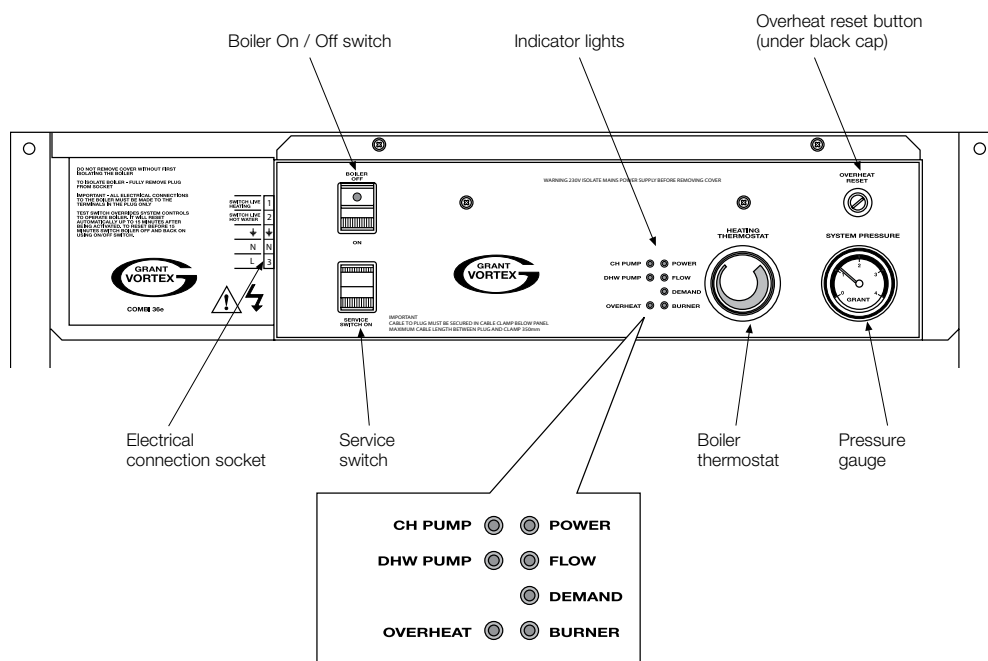
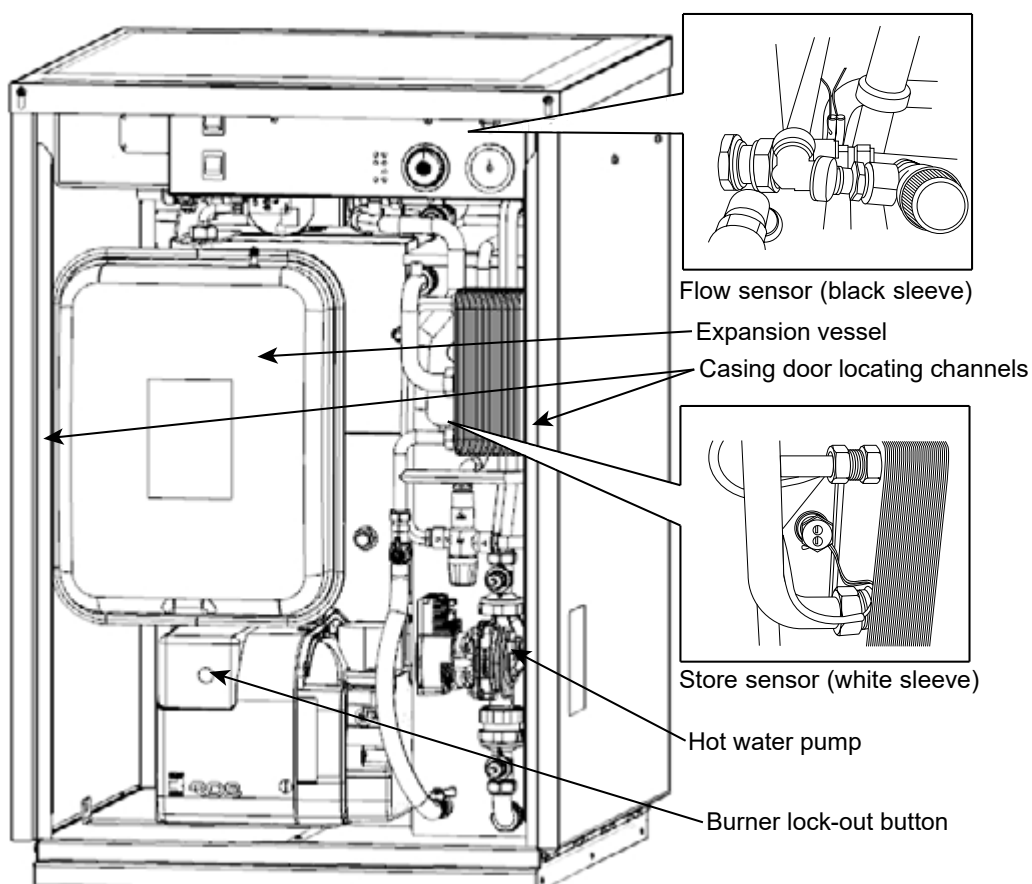

Figure 10-1: Vortex Pro External Combi boiler control panel
Figure 10-2: Position of boiler components - Vortex Pro External Combi
The controls are shown in Figure 10-1 and other components are shown in Figure 10-2.
3. Remove the four screws retaining the top casing panel and remove the top casing panel, then check that the high limit thermostat bulb and boiler thermostat bulb are correctly located in their respective pockets. Refer to Figure 5-1. Ensure the store sensor is correctly located in its pocket. Refer to Figure 10-2. Check condition of all thermostat capillaries. Ensure they are not damaged, broken, kinked or crushed.